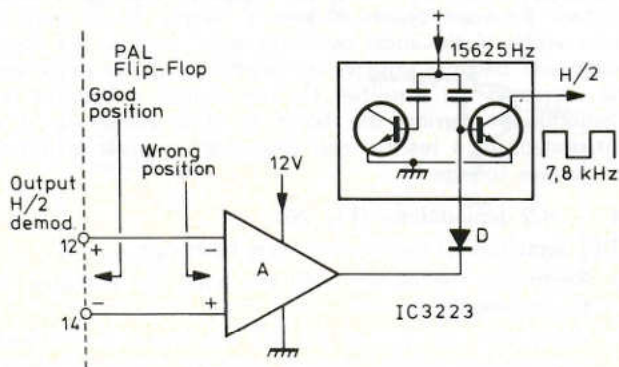

Fig. 27
**9. Identification circuit (Fig. 27)**